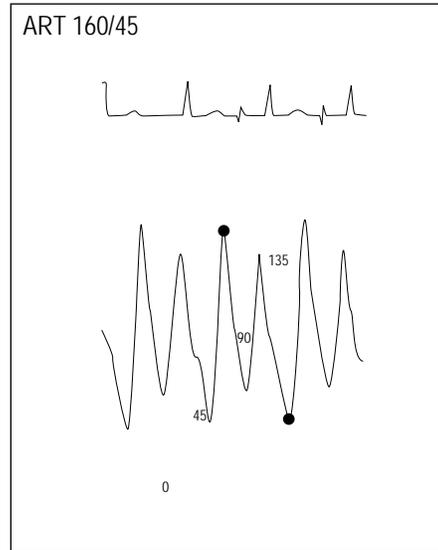

Figure 2
- When the patient systole is greater than the augmented diastole, the displayed systole will equal the patient systole. (See figure 2, Patient Systole > Augmented Diastole, below.)